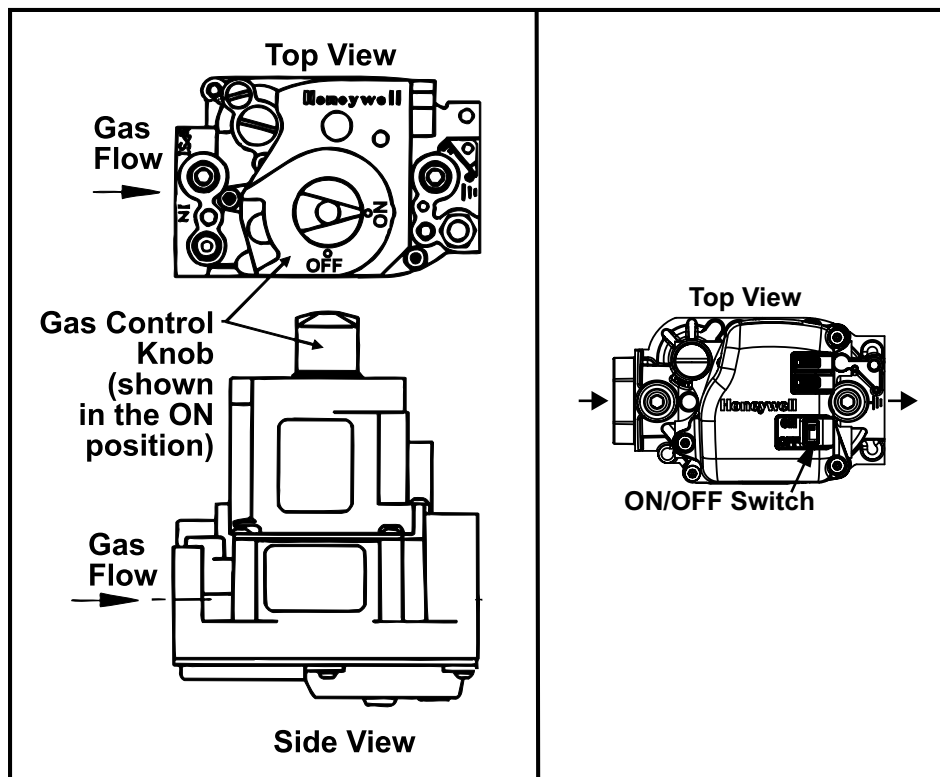

Figure 13. Gas Valve ON/OFF Control
3. Open access door and locate gas control (ON/OFF) knob or switch on gas valve (see Figure 13).